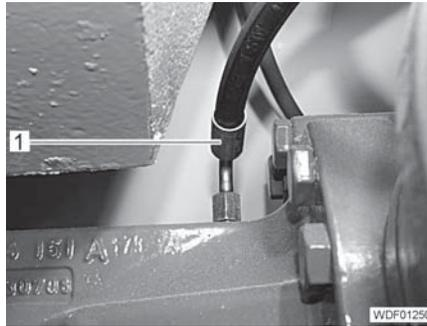

Fig. 235 Hydraulic line of the differential lock
- Unscrew and close off the hydraulic line of the differential lock (Fig. 235,1).